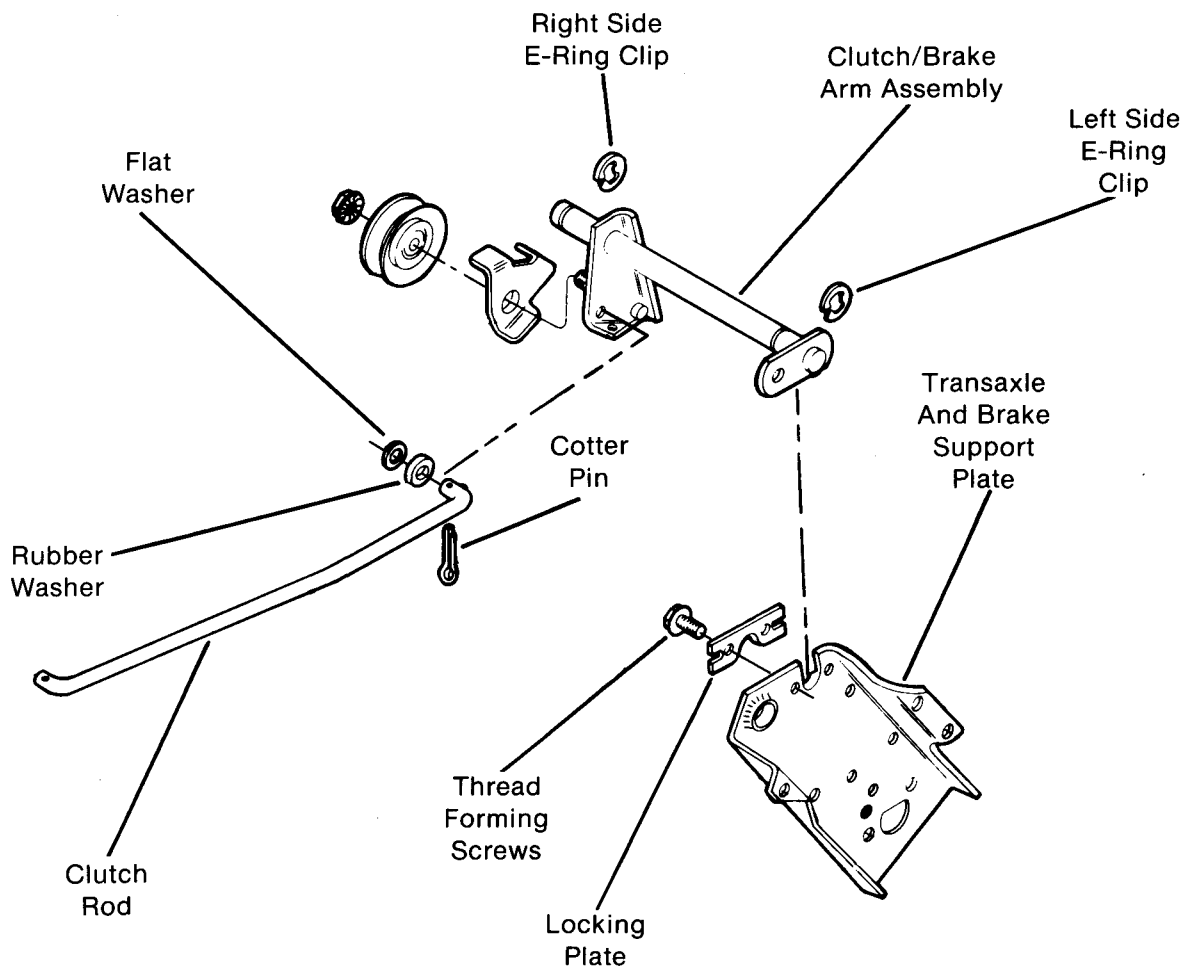

FIG. 58
- Remove E-ring clip on left end of clutch/brake arm assembly against transaxle and brake support plate. (Fig. 58)
- F. Remove two thread forming screws attaching locking plate to transaxle and brake support plate. (Fig. 58)
- I. Compress rubber washer and flat washer on rear end of clutch rod and remove cotter pin from clutch/brake arm assembly. (Fig. 58)